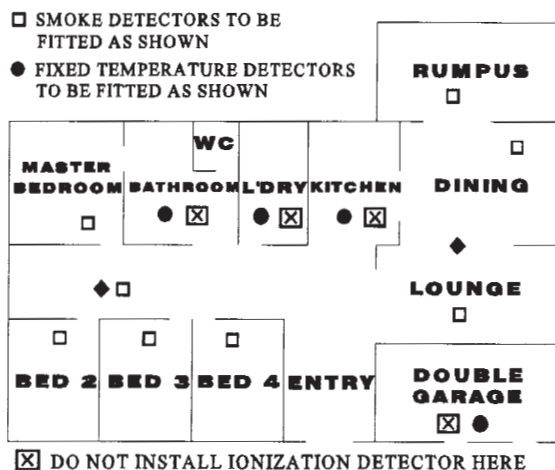

Figure 1.
1. See figure 1 for the preferred locations to install your Smoke Detector Alarms: